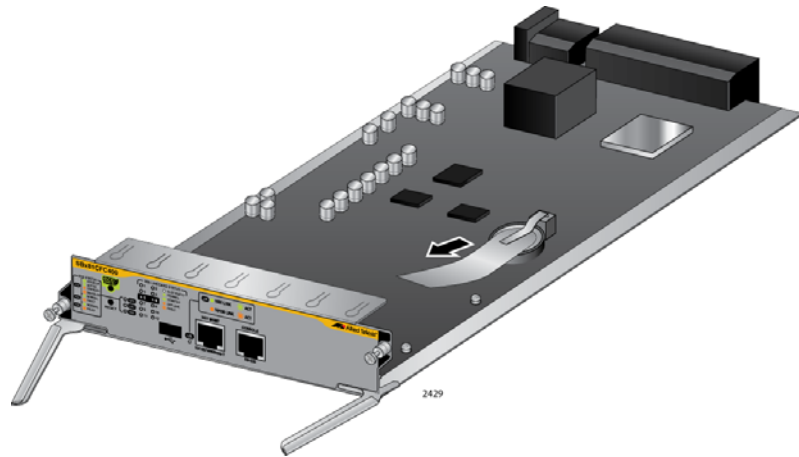

Figure 61. Removing the Battery Insulator
4. Carefully remove the battery insulator tab on the controller card by sliding it out from between the battery and battery clip, as shown in Figure 61 on page 122.